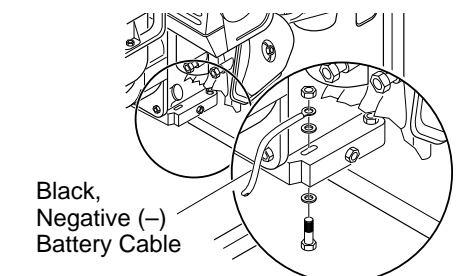

Figure 11 - Connecting Black, Negative (-) Battery Cable to Engine Block (Model RGH7500AIE Shown)
2. Attach the black, negative (–) battery cable to the engine block. Use the bolt, nut, and two washers provided with the battery cables. Use long mounting hole on opposite side of engine from starter solenoid. Attach cable as shown in Figure 11.